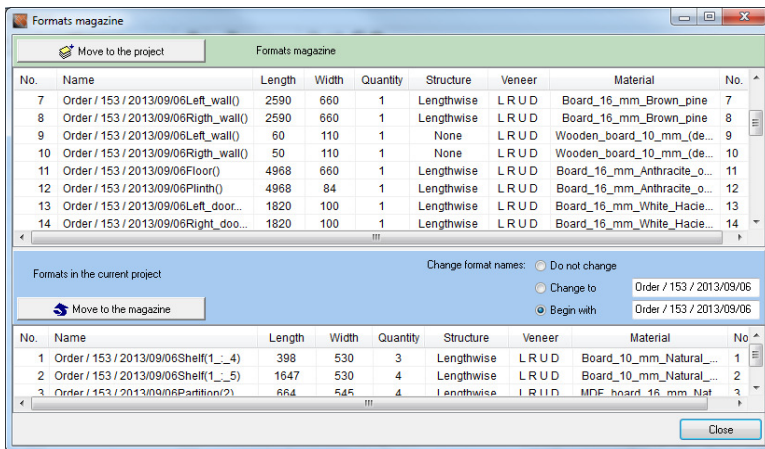

Fig. 44 – formats magazine
- 3)  **Formats magazine** - opens the window of the magazine of formats (Fig. 44 on the next page).